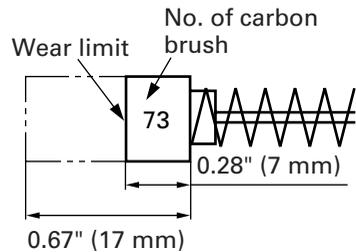

Fig. 10
## 3. Inspecting the carbon brushes (Fig. 10)
**NOTE:** Use HITACHI carbon brush No. 73 indicated in Fig. 10.